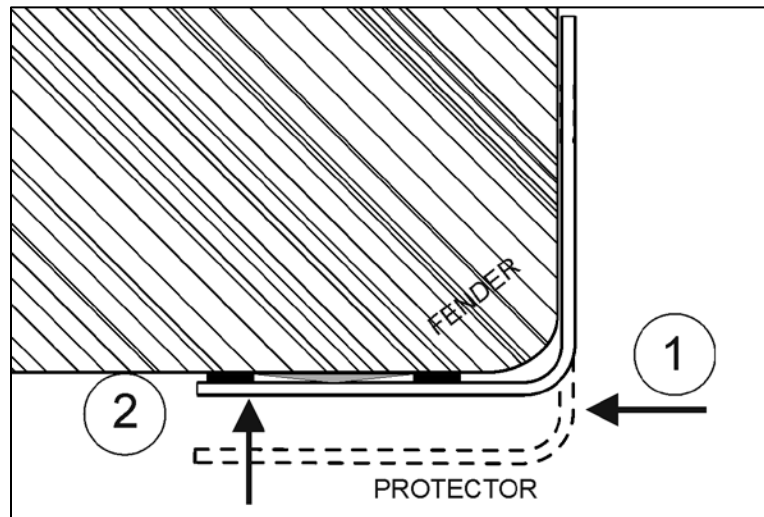

FIGURE 5 INSTALLATION SEQUENCE
10. Within 10 minutes of glue application, place protector against inner face of fender (1, Figure 5). Then, push against outer face (2, Figure 5).